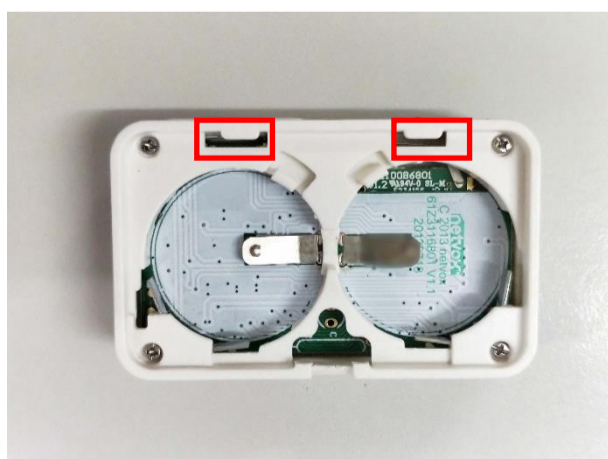

Fig. 2.
Step 3: First align the side groove of the battery back cover with the protruding points of the host body (the red frame in Fig. 2.), and then close the battery back cover.